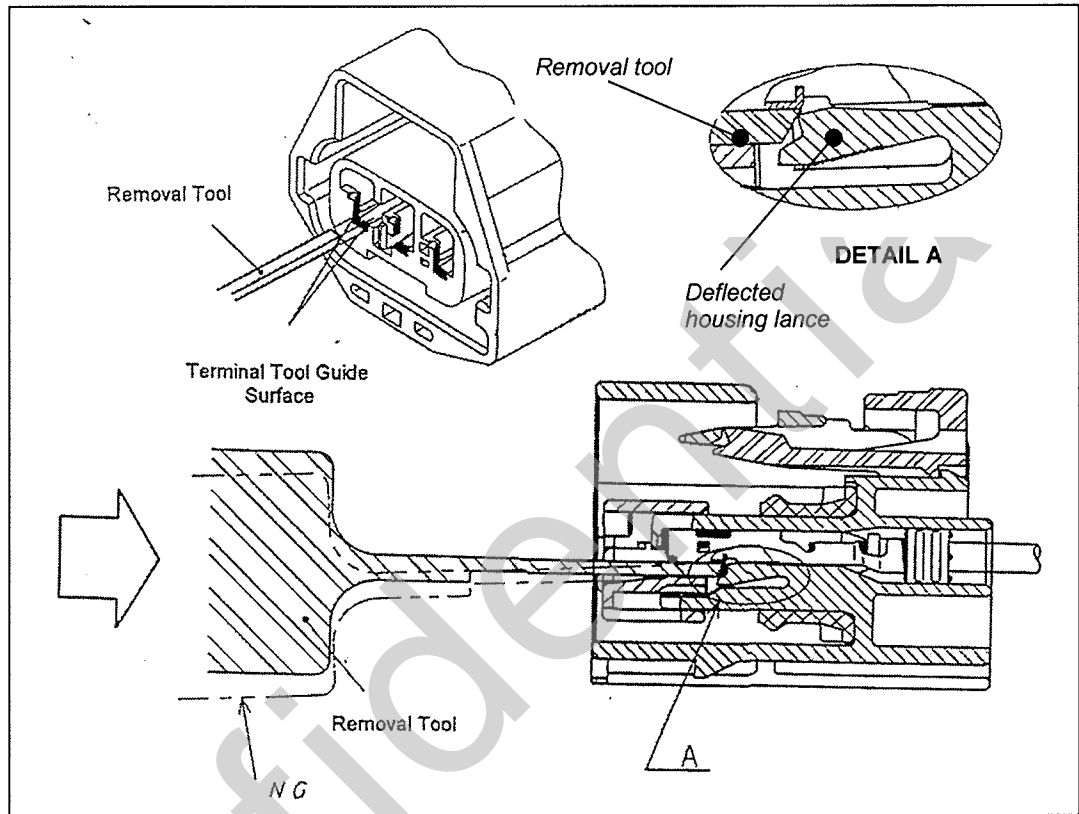

Figure 32:
- Insert the removal tool into the terminal cavity as shown in figure 32. The tip of the tool must be positioned between the housing lance and the terminal.